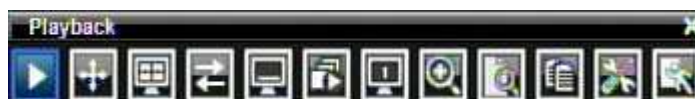

Figure 3-1 OSD Root Menu
1. Right-click the mouse to obtain DVR control bar (see Figure 3-1 OSD Root Menu). When you move the mouse over each icon, the appropriate title will be displayed on top of the control bar.